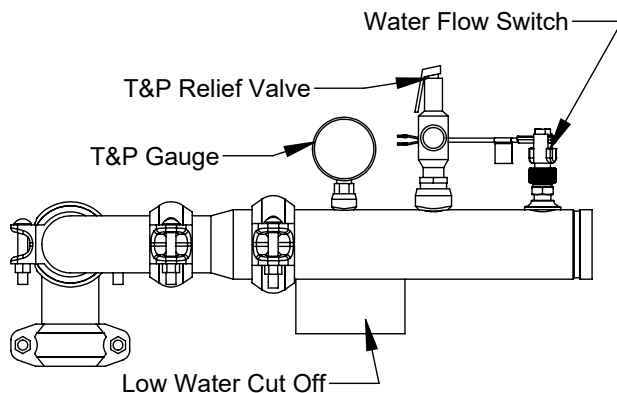

Figure 22: Hot Water Outlet Manifold (AMPW)
2. The hot water supply line shall be connected to the outlet manifold of the appliance shown in Figure 22.